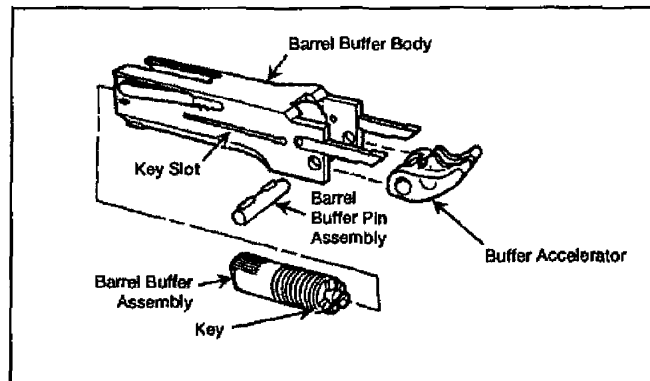

Figure 071-022-0001-27. Assembly of the barrel buffer assembly
(1) Place buffer accelerator (tips up) into barrel buffer body, align mounting holes, and install buffer pin assembly. Ensure both ends of barrel buffer pin assembly are flush with sides of barrel buffer body (figure 071-022-0001-27).